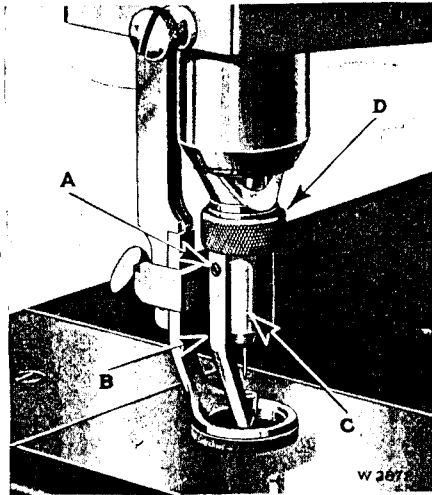

FIG. 20. BRAID GUIDE IN POSITION IN LEFT GROOVE OF BRAID GUIDE CARRIER
(SEE FIG. 20)
Turn the knurled ring (D, Fig. 20) over to the right or upward as far as it will go, then pull out the braid guide (B, Fig. 20) to remove it from the machine.
There are two grooves in the braid guide carrier (C, Fig. 20) and in replacing the braid guide care should be taken to see that the guide is placed in the correct groove. To determine the correct groove, turn the handle (A, Fig. 5, page 5) toward the front of the machine. The groove at the back of the carrier should be used when sewing the braid "flat on" with invisible stitches. The groove at the left of the carrier should be used when stitching the braid "edge on" for what is known as "standing" braid and when stitching round braid.
(SEE FIGS. 20 AND 22)
knurled ring (D, Fig. 20, page 16) and slightly loosen the small set screw (A, Fig. 20) in the braid guide to bring the guide closer to the needle. The braid guide should be set so that the needle just enters the braid at every stitch. When the braid guide has been properly adjusted tighten the knurled ring (D).
(SEE FIGS. 20 AND 24)
In case the needle does not enter the braid properly, loosen the knurled ring (D, Fig. 20, page 16) and slightly loosen the
small set screw (A, Fig. 20) in the braid guide to bring the guide closer to the needle. The braid guide should be set so that the needle just enters the edge of the braid at every stitch. When the braid guide has been properly adjusted, tighten the knurled ring (D).